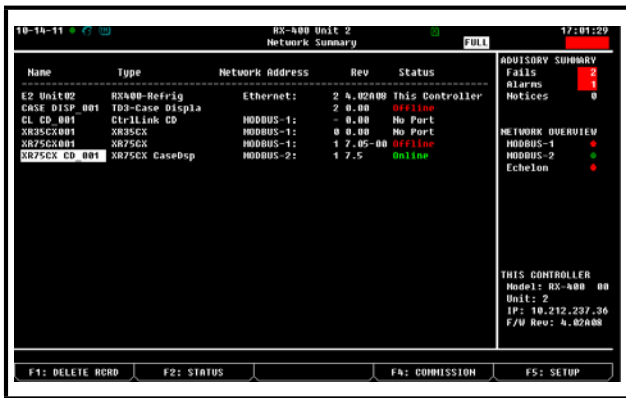

Figure 16-6 - Network Summary Screen
- When finished, press **ESC** to return to the **Network Setup** menu, then press **1** - **Network Summary** (Figure 16-6). Locate the devices you set up, and look at each device's status in the **Status** field. You will see one of